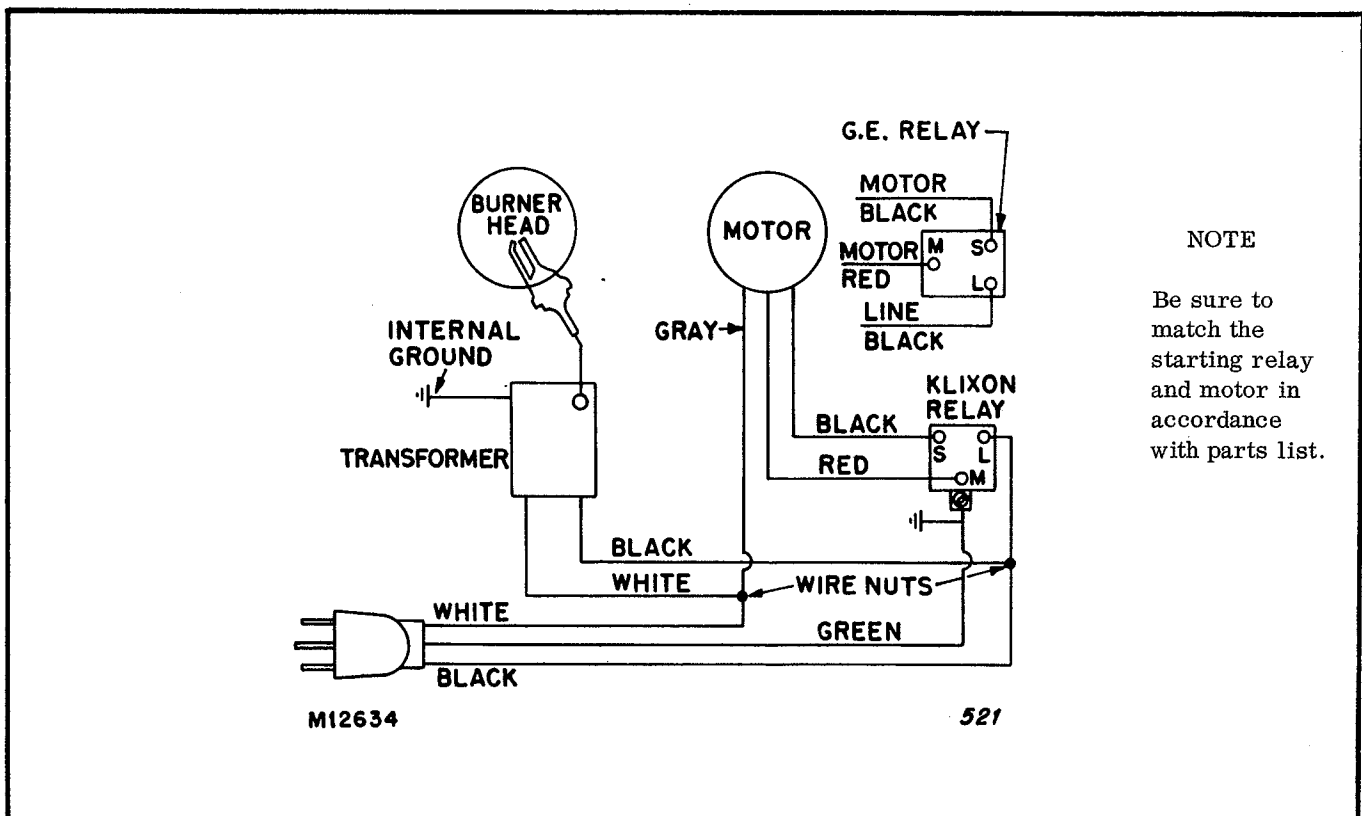

Figure 9. Wiring Diagram
5. Reinstall the attaching screws, and make wiring connections in accordance with Figure 9.
2. Electrical Check. These heaters have 1/6 horsepower motors and separate starting relays. (See the Wiring Diagram, Figure 9.)
c. If the motor starts, install a new relay, and reconnect the wiring according to the Wiring Diagram, Figure 9.